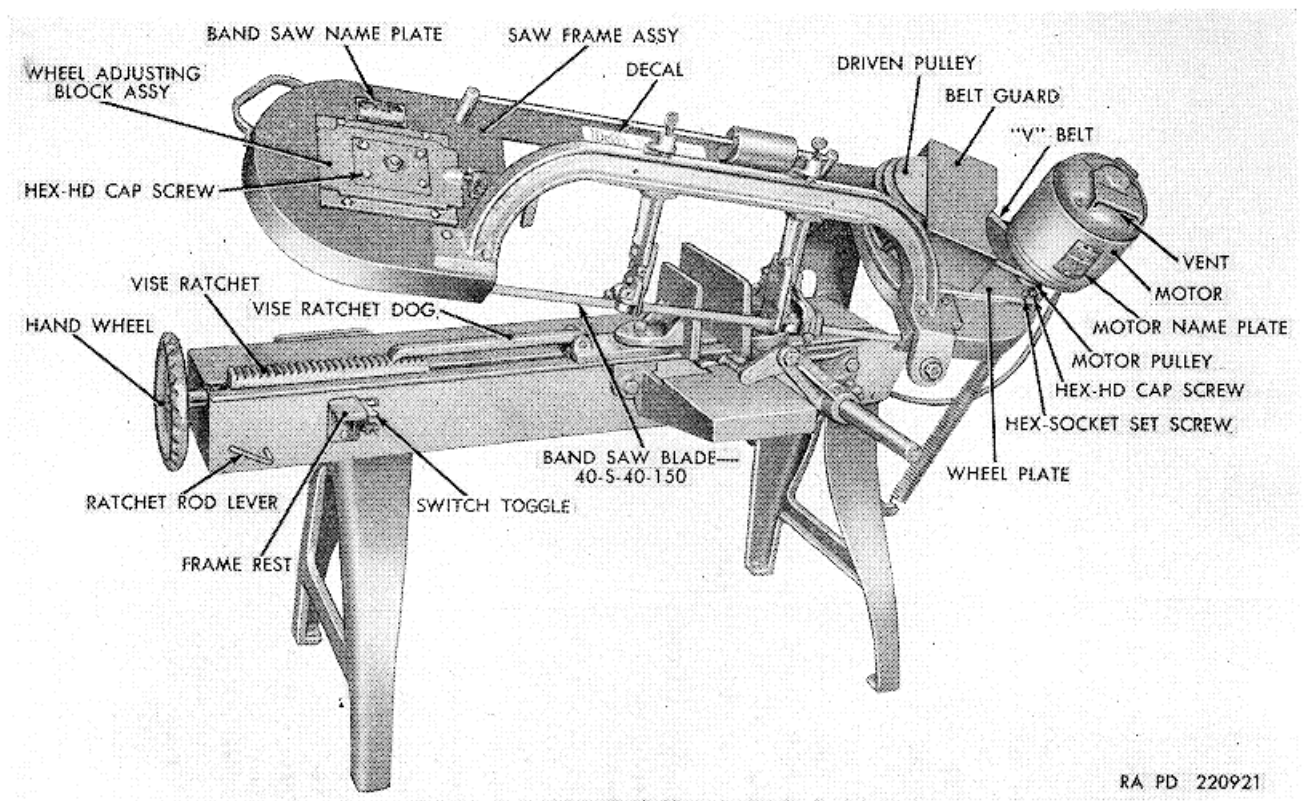
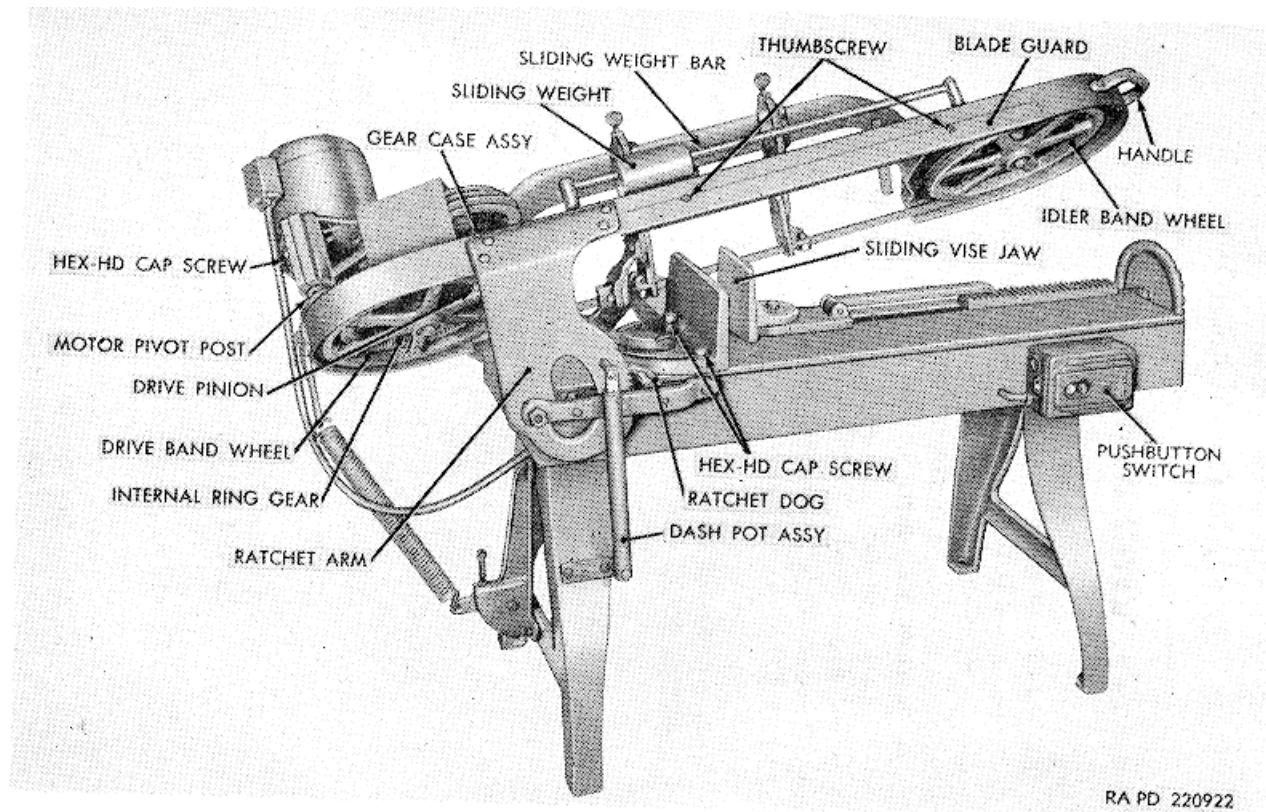
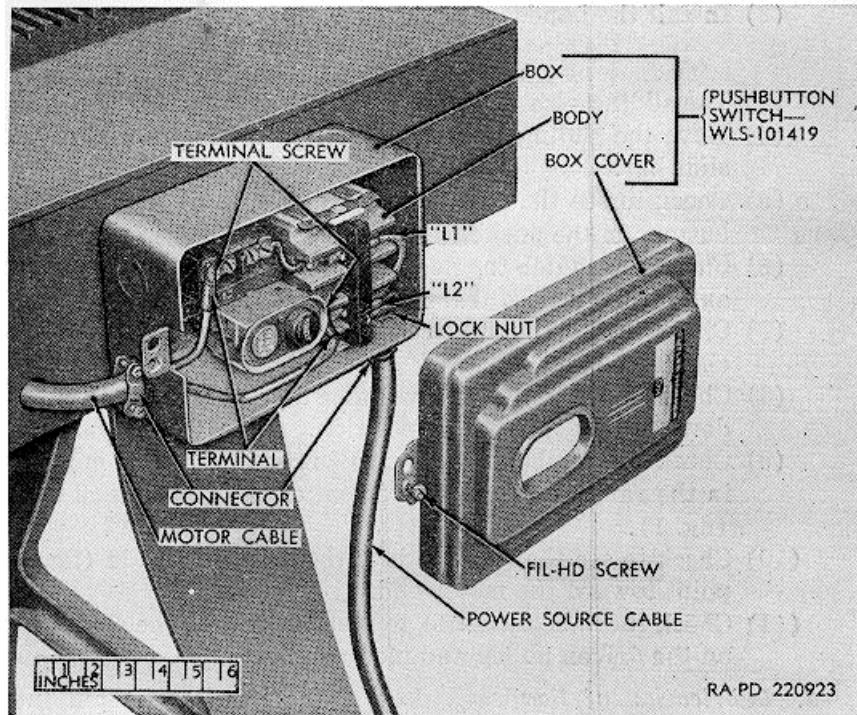

Figure 1. Bandsaw - front view.
Figure 2. Bandsaw - rear view.
Figure 3. Power source and motor cables connected to pushbutton switch.
The bandsaw (figs 1 and 2) is normally a floor mounted bandsaw designed to operate on ac current only. The motor name plate (fig. 1) is marked 115/230 volts, but reference will be made throughout this manual to the more commonly expressed 110/220 volts as indicated in title of manual. This bandsaw is used for cutting solid steel, tubing, and odd shapes of material.
A bandsaw name plate (fig. 1) is mounted on the left, top side of the saw frame assembly which lists the name of the bandsaw, model, serial number, a note for maximum bandsaw blade life, and the manufacturer's name and address. A deal which also lists the name of the bandsaw and the manufacturer's name and address, is cemented on the center top side of the saw frame. A motor name plate is mounted on the motor which lists the manufacturer's name and address, horsepower, temperature, type, phase, cycle, amperage, frame and serial numbers, an electrical diagram for making connections for use of a 110/220 volt power source, and instructions for lubrication of the ball bearings.
a. When a new or reconditioned bandsaw is first received by the using organization, it is the responsibility of the officer in charge to determine whether the materiel has been properly prepared for service by the supplying organization and to be sure it is in condition to perform its function. For this purpose, inspect all assemblies and equipment to be sure they are properly assembled (figs. 1 and 2), secured, cleaned, and adjusted and/or lubricated. Check all spare parts, tools, and equipment with listing in ORD 7-8 SNL J-677 to be sure every item is present and in good condition.
a. *Unpacking and Checking Materiel Received.* The bandsaw (figs. 1 and 2), spare parts, and equipment are packaged and shipped complete in a nailed wooden crate. Upon receipt, use a pinch bar to pry off the top and sides of the crate and carefully check contents in accordance with paragraph 7a to determine if all items are present and in good condition.
- (1) Secure the bandsaw to the floor with 1/2-inch anchor bolts if it is to be a permanent mounting.
- (2) Install the bandsaw blade (par. 40c).
**The bandsaw blade 40-S-40-150 (fig. 1) may be replaced by blades 40-S-41 or 40-S-41-150 (par. 28).**
- (3) The sliding vise jaw (fig. 2) must move freely.
- (4) Move the sliding weight (fig. 2) to the motor end of the slide bar.
- (5) Check to see that the switch toggle (fig. 1) operates the buttons in the pushbutton switch (fig. 2).
- (6) Check the switch toggle to see if it is in the down position and level with the frame rest (fig. 1).
- (7) Check to see that the vent (fig. 1) in the motor is unobstructed.
- (8) Check to see that the saw frame assembly (fig. 1) moves down slowly in the free position.
- (9) Check the ratchet dog (fig. 2) to see if it can be engaged in the ratchet arm by movement of the ratchet rod lever (fig. 1).
- (10) Check to see that the teeth of the bandsaw blade (fig. 1) point toward the motor end.
- (11) Check the V-belt (fig. 1) to see that it is in the same step on the driven pulley and motor pulley.
*d. Lubrication of Bandsaw.* Before the bandsaw is put into actual operation, be sure the gear case assembly (fig. 2) is filled with lubricating grease through the hole in the gear case as prescribed in the lubrication chart (fig. 5). Also smear some grease on the teeth of the drive pinion (fig. 2). Remove the pipe plug in the end of the motor for lubricating the ball bearing. Install plug after lubrication.
- (1) Remove the pushbutton switch box cover (fig. 3) by unscrewing the fillister-head screw.
- (2) Check the voltage of the power source to be sure it is the proper voltage specified for the bandsaw. If the voltage specified ((1) above) for the bandsaw and voltage at the power source differ, notify ordnance maintenance personnel.
- (3) Connect a length of wire to act as a ground from any leg of the bandsaw to a ground connection at the power source or to a water pipe which is properly grounded.
**Note. The grounding connection must be made before installing the power source cable (fig. 3) in the pushbutton switch (fig. 2).**
- (4) If the motor cable (fig. 3) is not connected, secure the two terminals of the motor cable under terminal screws T1 and T2.
- (5) Knock out a plug in the lower right side of the pushbutton switch box (fig. 3) and install connector and locknut.
- (6) Push the end of a length of power source cable (fig. 3) through the connector.
- (7) Strip the ends of the two conductors of the power source cable (fig. 3) and connect one conductor under the terminal screw L1 and the other conductor under the terminal screw L2 on the right side of the pushbutton switch body. Connect the other end of the power source cable to the power source.
(8) Tighten the screws in the connector, install the pushbutton switch box cover (fig. 3), and tighten the fillister-head screw.
*f. Inspection.* After properly connecting the motor (fig. 3) and the power source cables to the pushbutton switch and power source, lift the switch toggle (fig. 1) or press the "start" button in the pushbutton switch (fig. 2) which will start the motor (fig. 1) and start the bandsaw blade in motion. Observe operation of the bandsaw during short operating interval to be sure it is functioning properly. The saw blade must move toward the motor on the front side of the bandsaw. The switch toggle is then pressed down or the "stop reset" button in the pushbutton switch is pressed in to stop the bandsaw.
The switch toggle (fig. 1) serves two main purposes. First, it is used to start and stop the bandsaw when the operator is at the front of the bandsaw. (Lifting the toggle up starts the motor and pressing it down stops it.) Second, it serves as an automatic shutoff control. When a cut is completed the toggle can be pressed down to stop the bandsaw or the saw frame assembly (fig. 1) will continue to move down until it strikes the switch toggle moving the toggle down and shutting off the motor.
The bandsaw is equipped with a pushbutton switch (fig. 2) which is installed on the rear of the bandsaw at the power source input to protect the wiring and the motor brushes. This switch incorporates a heater coil for 110-volt circuit and is replaced by another coil for 220-volt circuit. This coil protects the electrical system by breaking the circuit in the event of an overload in the line.
The sliding weight (fig. 2) controls the cutting pressure or feed of the saw frame assembly (fig. 1). When starting a cut be sure that the weight is at the motor end of the